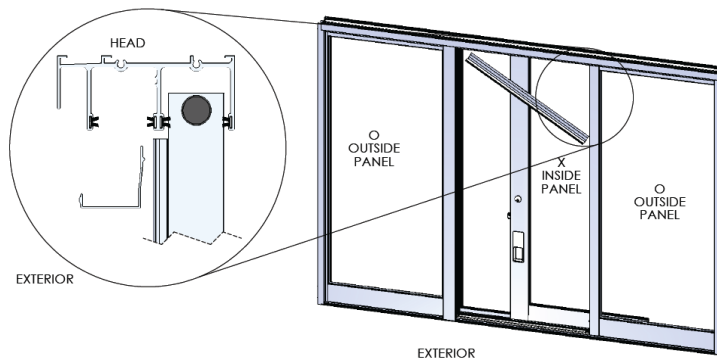

Figure 25:
4. Install the head closer between the false jamb and the fixed panel (Figure 25).